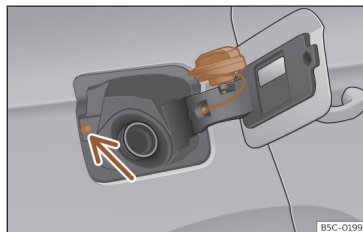

Fig. 213 Fuel tank flap with tank cap attached.
Avoid touching the fuel tank flap lock button » » » **Fig. 213** (arrow). The system will interpret that you have finished and cannot continue refuelling. Press the  button on the driver's door again to continue.
- Place it in the space on the hinge of the open flap » » » **Fig. 213**.